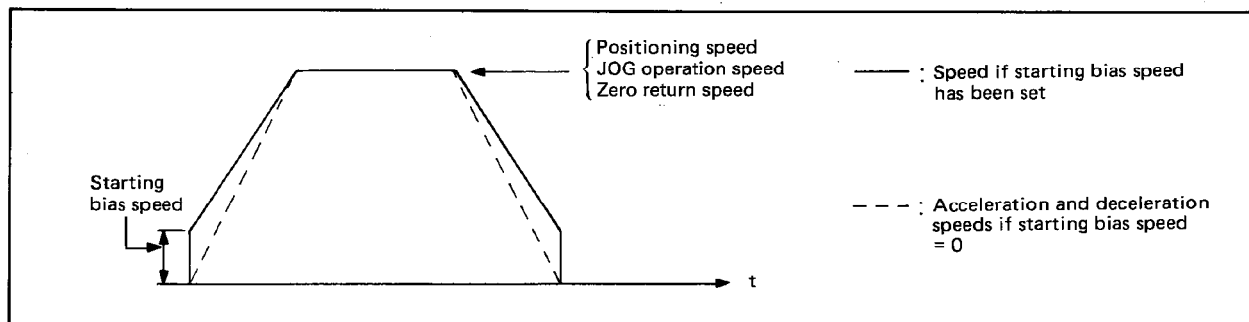

Fig. 2.3 Speed Change When Starting Bias Speed Is Set
(4) JOG speed limit value
(5) Starting bias speed
- The starting bias speed is used for positioning, JOG operation, and zero return. See Fig. 2.3.